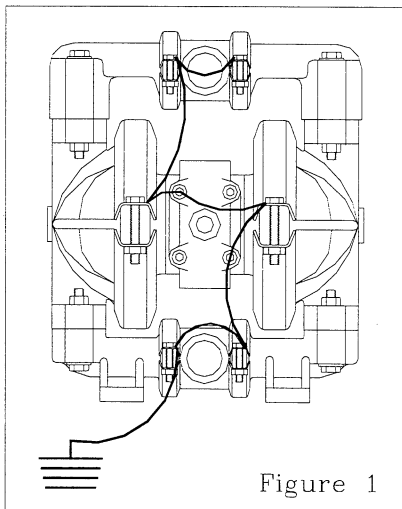

Figure 1
1. To ground plastic pumps connect a ground wire to all metallic clamps as well as the air valve body & piston assembly. The ground wire should be connected to a suitable ground location. (figure 1)